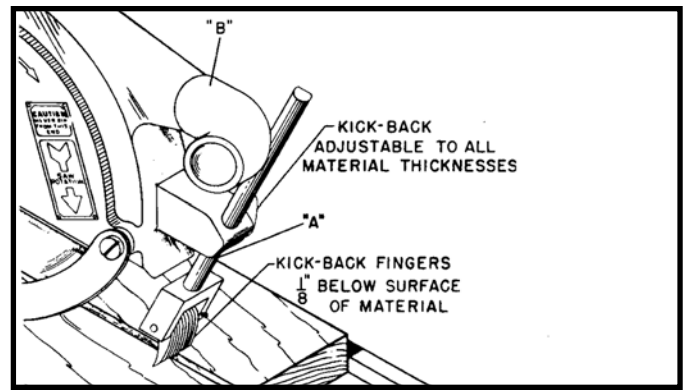

Fig. 46
On all ripping and plowing operations, the back part of the blade guard is lowered so that it just clears the material. This will prevent the material from being lifted off the table. Also, lower the kickback rod (A) Fig. 46, so that the kickback fingers are 1/8" below surface of material. The kickback fingers will then come into contact with the material preventing "kickback." Adjust dust elbow (B) Fig. 46 to direct sawdust to rear of machine.